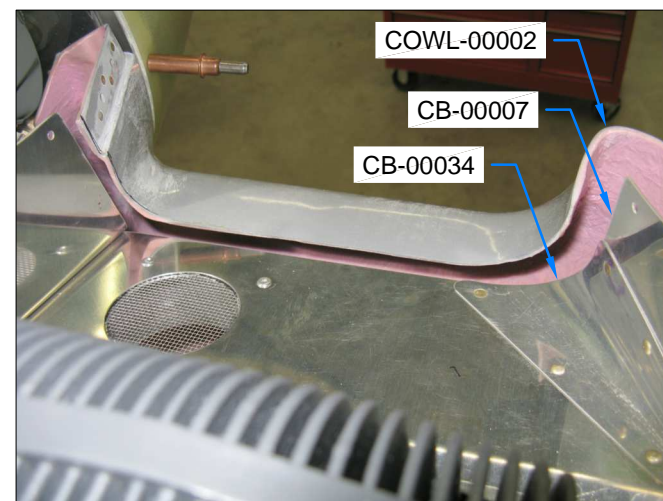

FIGURE 2: MISALIGNMENT - RIGHT
Step 2: Become familiar with the misalignment between the bottom cowl air inlets and the CB-00033 Air Filter Frame Cover, CB-00007 Right Air Ramp, and CB-00034 Right Air Ramp Cone. See Figure 1 and Figure 2.